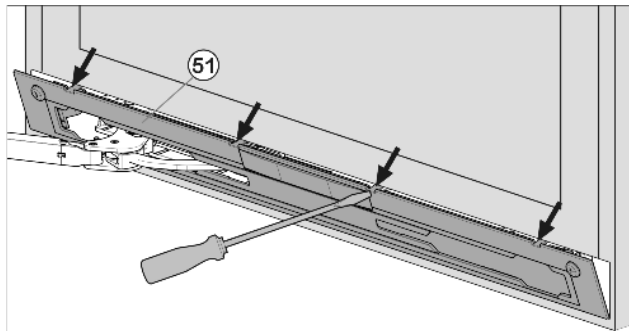

Fig. 29
- ▶ Release panel *Fig. 29 (1)* using slotted screwdriver and remove.